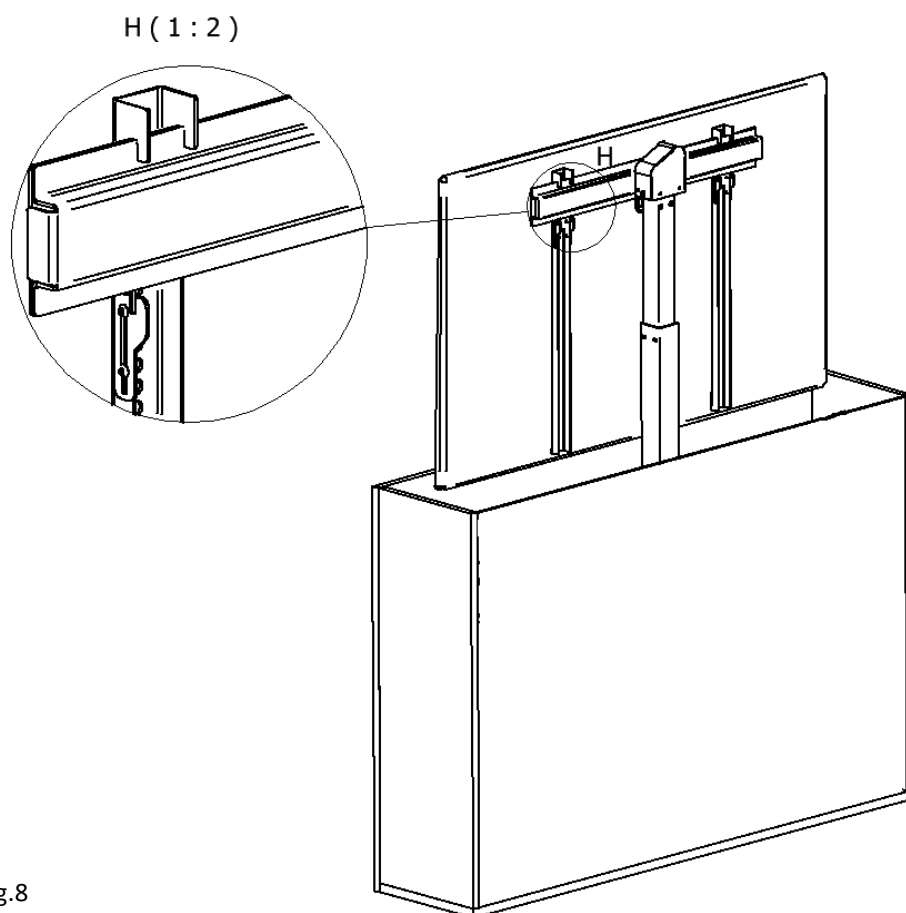

Fig.8
7. Loosen the lower brackets on the vertical beams, Fig. 8